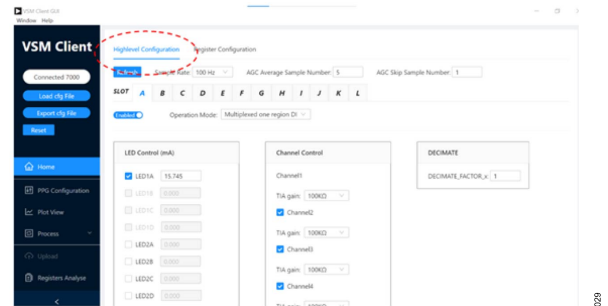

Figure 29. Highlevel Configuration Tab
4. After loading the configuration file, the **Highlevel Configuration** tab shows the current device data (see Figure 29). This tab shows the most used controls, which can be configured. To reset the data, click **Reset**.